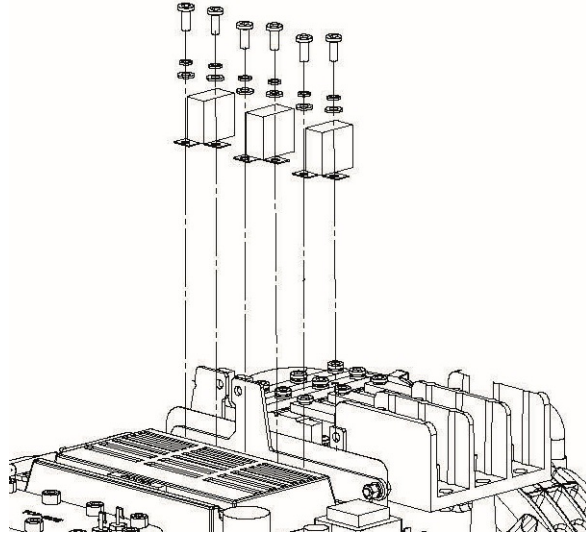

Figure 11 – Snubber Capacitor Removal
21. Disconnect the snubber capacitors from the Inverter noting the leg orientation of one leg is longer than the other. Refer to Figure 11 (Snubber Capacitor Removal).
20. Reconnect the snubber capacitors to the Inverter noting the leg orientation and torque to specification. Starting from the DC Bus Capacitor side, torque to 7 Nm (62 in.lb). Refer to Figure 11 (Snubber Capacitor Removal).